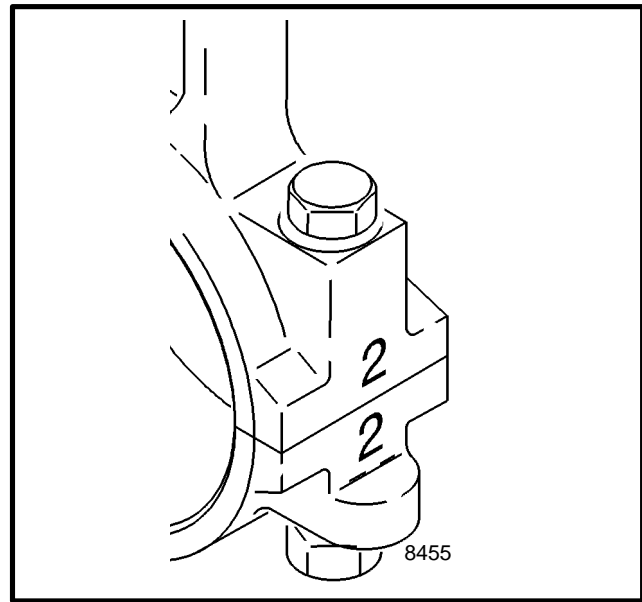

FIGURE 16. CONNECTING ROD
3. Remove the nuts for the connecting rod caps. Remove the caps and bearings. Make sure the caps have a number on them before removal. See FIGURE 16. Each connecting rod cap and connecting rod are a machined assembly and must not be mixed with another assembly.
3. Check the alignment of the connecting rod bores. The bores must be parallel to within 0.06 mm (0.0025 in) with the bushing installed when measured at 127 mm (5 in) from the center of the connecting rod. See FIGURE 16. When the bushing is removed the bores must be parallel to 0.25 mm (0.010 in).